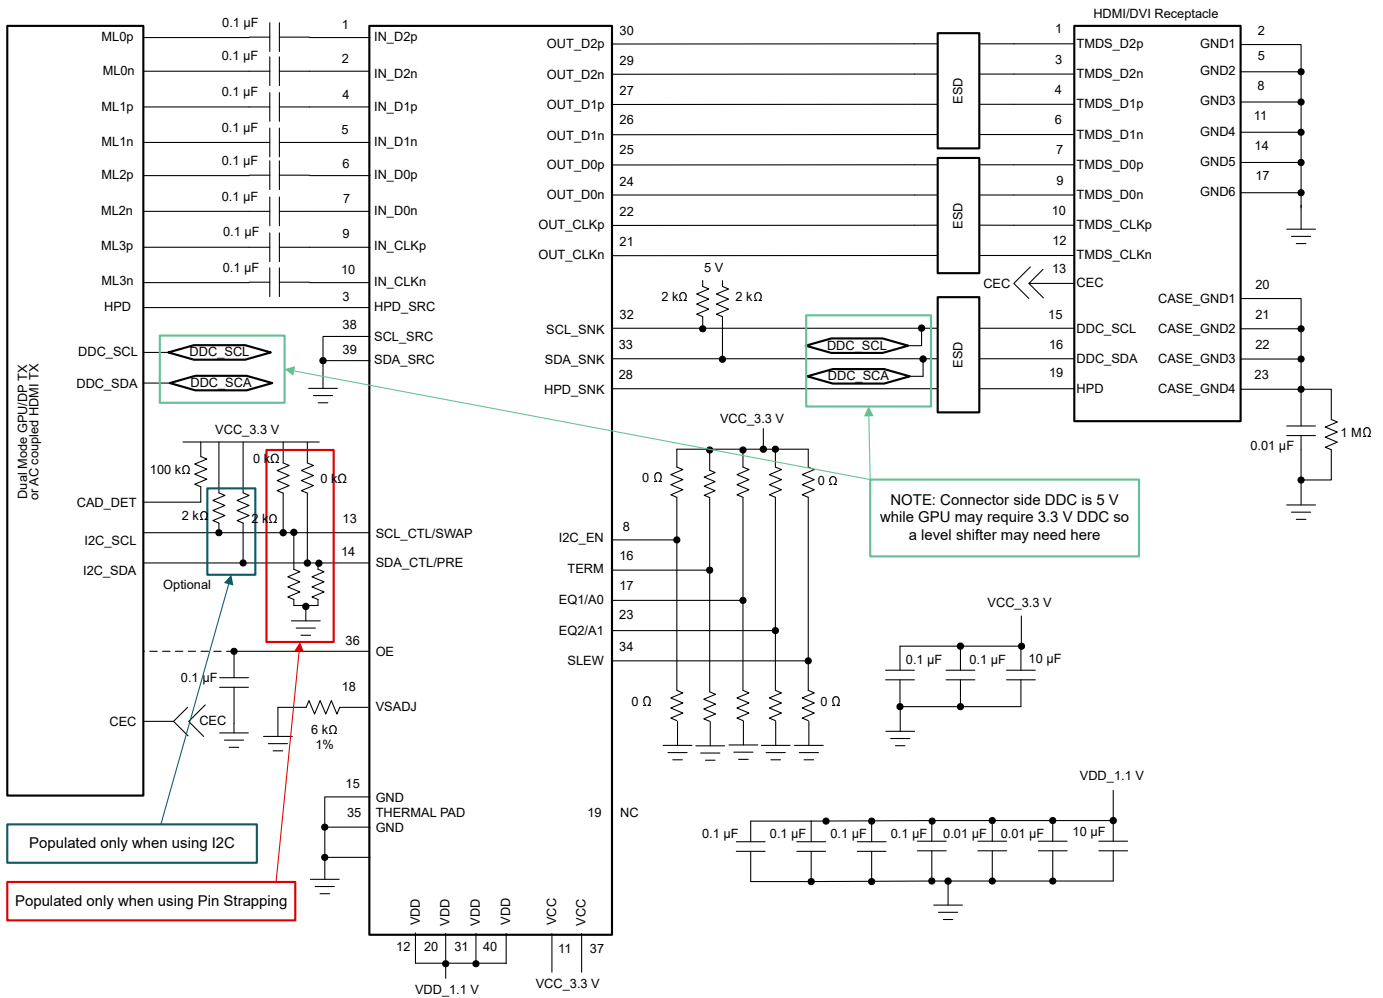

图 9-1. TDP158 in Source Side Application
图 9-1 provides a schematic representation of what is considered a standard implementation.
- Use the typical application 图 9-1 for information on control pin resistors.
- See schematics in 图 9-1 on recommended decouple caps from V_{CC} pins to ground.